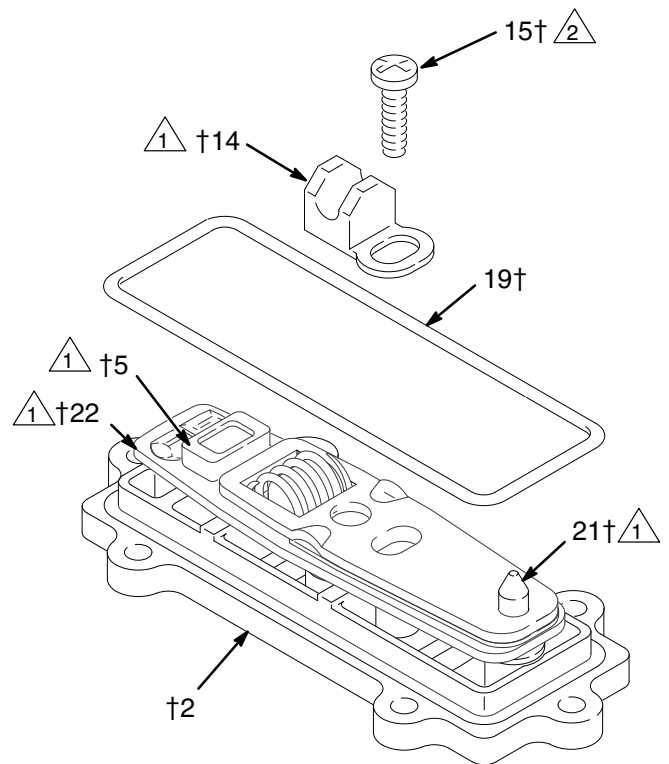

Fig. 15
8. Grease the inside surfaces of the shift saddle (14) and install it as shown in Fig. 15. Hold the link assembly firmly in place and install the screw (15). Torque to 7 to 9 in-lb (0.8 to 1.0 N.m). Install the o-ring (19) on the cover (2).